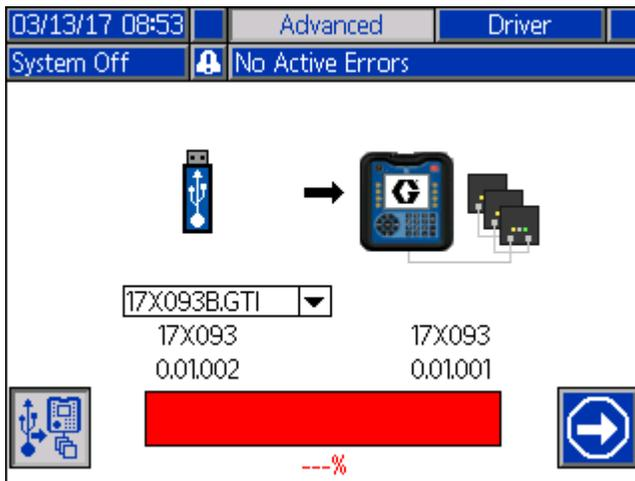

FIG. 13: Software Transfer Not Completed
10. If the software update transfer fails, the progress bar turns red and no percentage is shown. See **Figure 13**. Make sure the token and USB are inserted correctly (not loose) and retry the procedure. Do not remove the USB drive or token until the transfer process is complete. Press the soft key (A) next to the